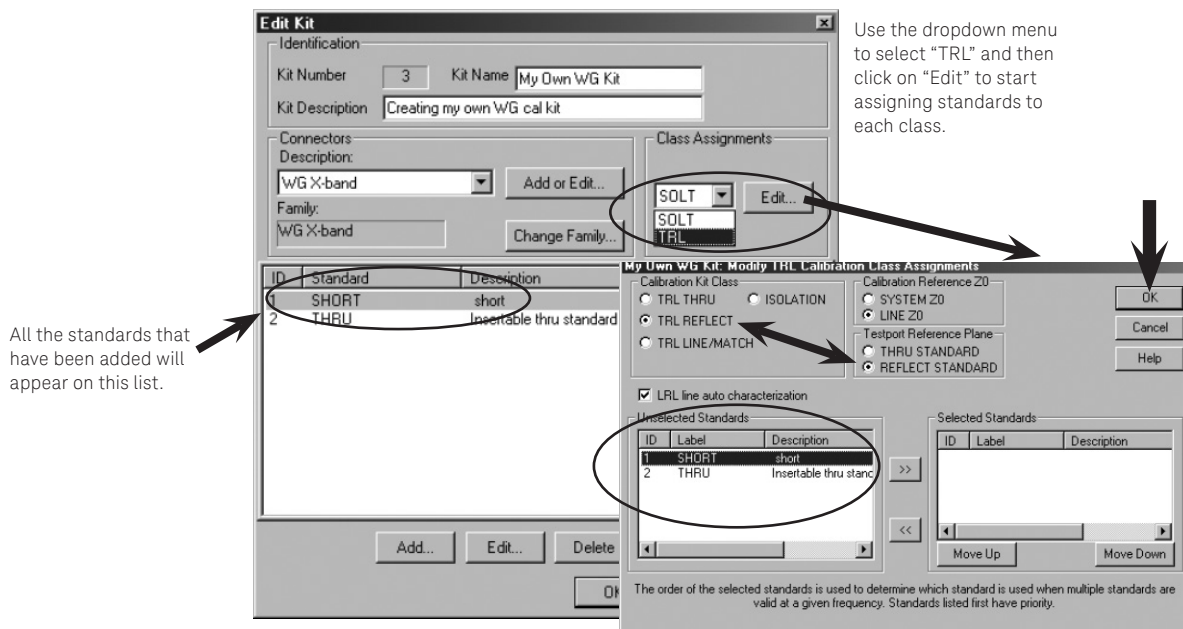

Figure 33. Assigning standards to class TRL.
- After all standards have been added, click **OK** on the “Add Standard” page to return to the “Edit Kit” page. All the standards that have been added should appear in the table (Figure 33, left). Now, under “Class Assignments”, use the drop down menu to select “TRL” (or “SOLT”) and then click on **Edit**. This brings up the “Class Assignments” page, Figure 33 (right) shows “Class Assignments” for TRL. For each “Class” selected, highlight the standard on the left, and then click on the “>>” button in the middle, to move the standard to the right under “Selected Standards.”